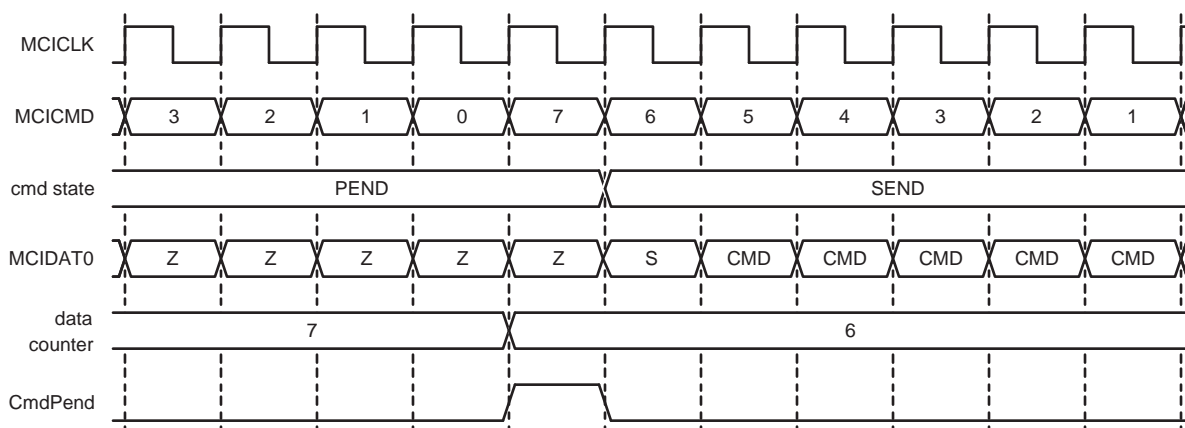

Fig 106. Pending command start
- To start transferring a pending command (see Figure 106). This is used to send the stop command for a stream data transfer.